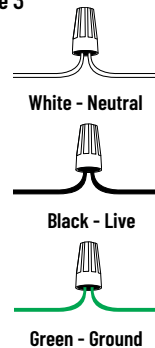

Figure 4
6. Align the two springs on the luminaire to the mounting plate, insert the luminaire into the mounting plate. Snap to secure. (Figure 4)